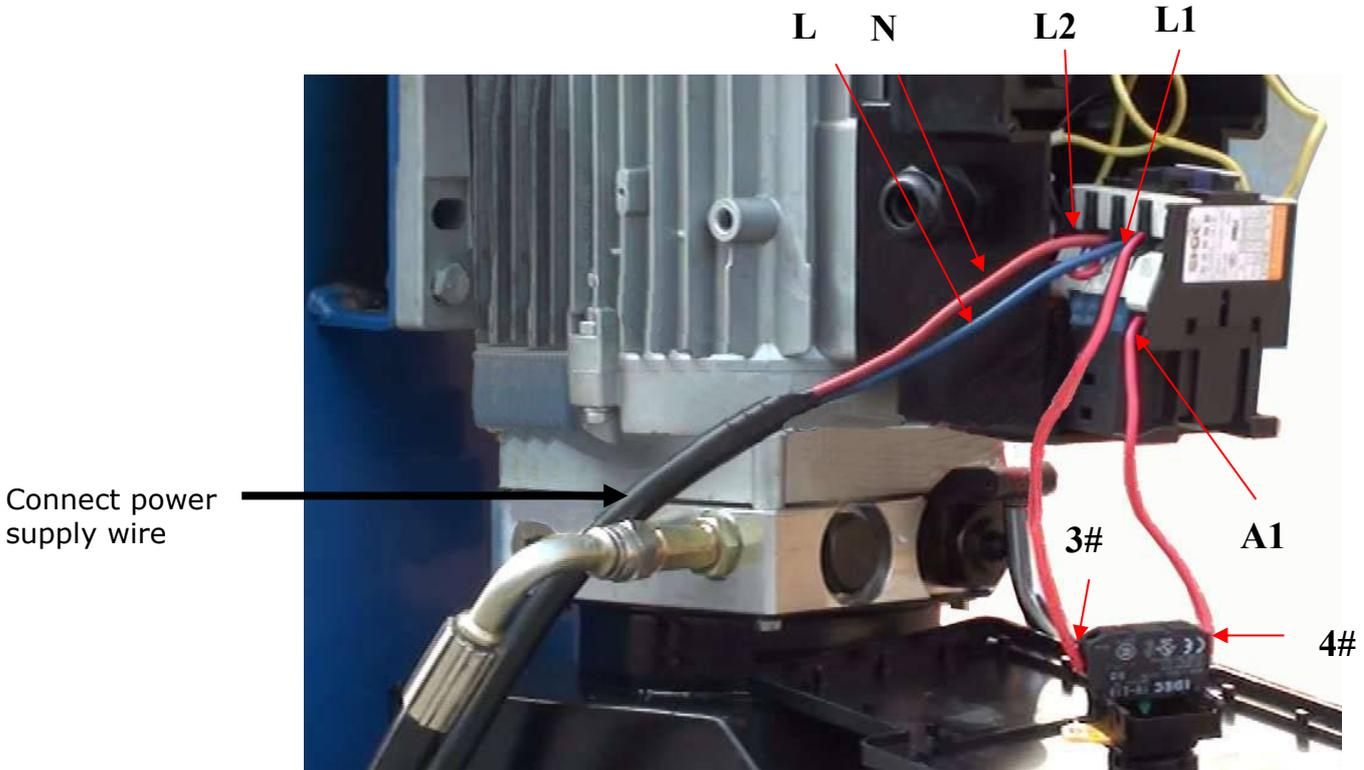

Fig. 31
1.2 Wire connection steps (see Fig.31)